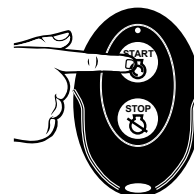

Figure 10: Wireless Remote - START
5. Push the **START** icon on the wireless remote. (see Figure 10).